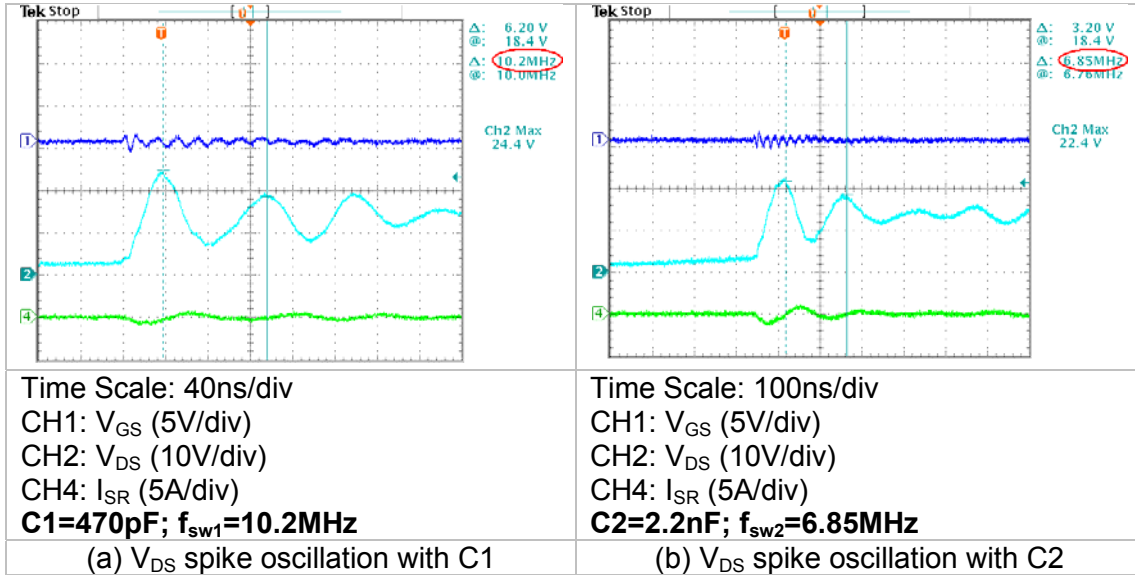

Figure 15 — Drain-Source Voltage Spike Oscillation
According to (13) and bench test results in figure 15, C_P and L_S can be calculated as $\sim 940\text{pF}$ and $\sim 0.2\mu\text{H}$.
- Secondary stray capacitance and inductance: $C_P=940\text{pF}$, $L_S=0.2\mu\text{H}$, which is already got from (13) and figure 15.